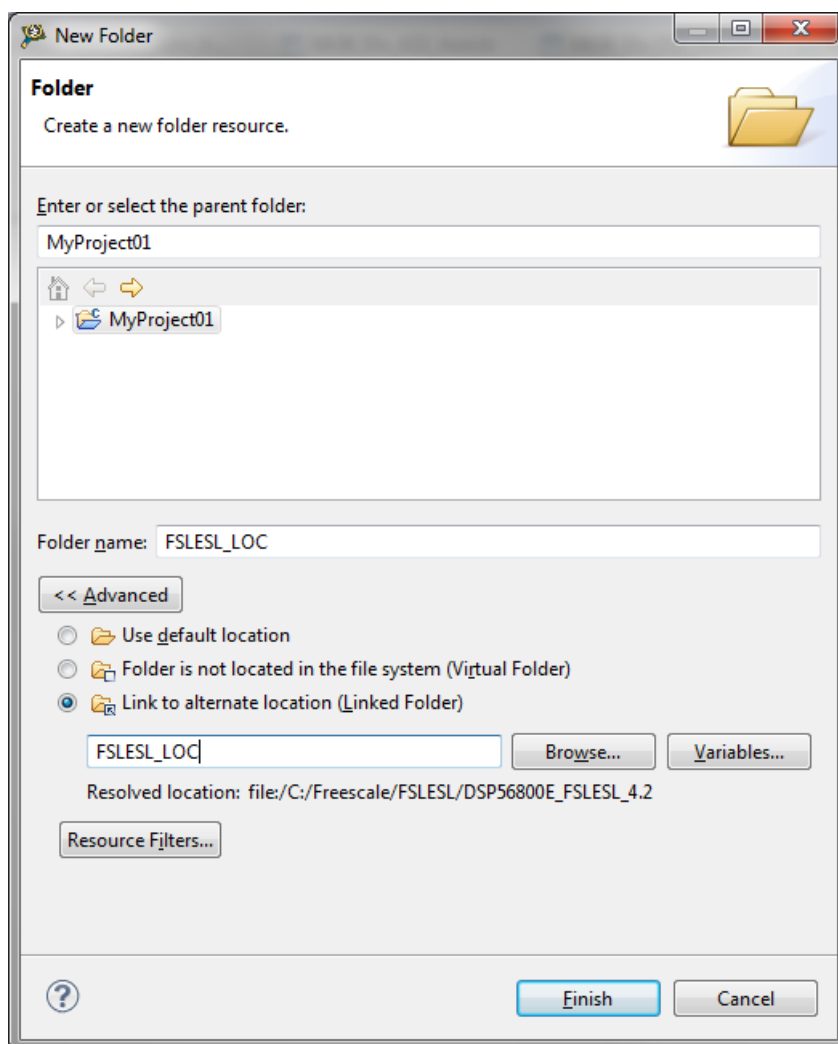

Figure 1-8. Folder link
4. Click Variables..., and select the FSLESL\_LOC variable in the dialog that appears, click OK, and/or type the variable name into the box. See Figure 1-8.